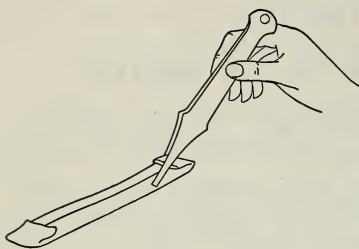

Fig. 7. Sheet copper folded for heating in air.
10. Heating a folded piece of copper. A bright piece of sheet copper is rolled up, the roll flattened with pliers, and the ends of the roll squeezed shut and bent over (Fig. 7). The